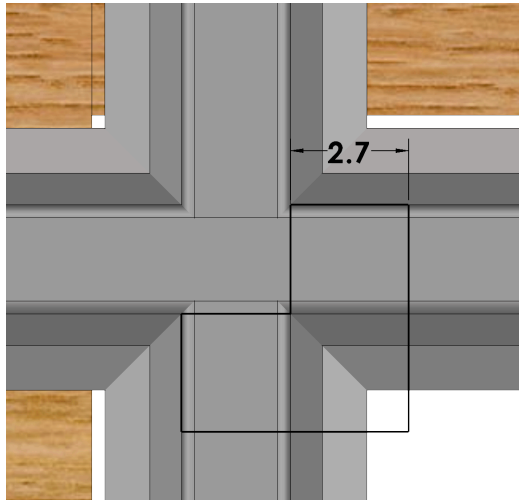

Fig. 12
Step 8. Click **Smart Dimension**  (S) on the Sketch toolbar.
Step 9. Add **2.7** dimension, **Fig. 12**.